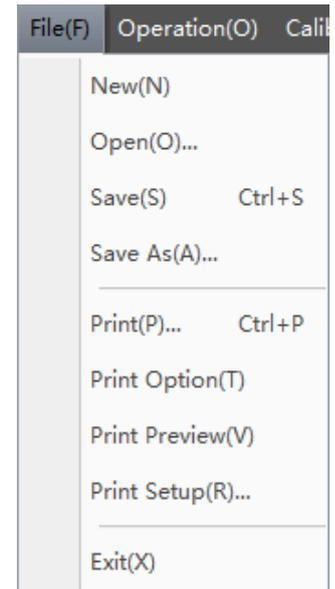

Figure 3.4 File Menu
3.2.1 File (F)
The drop-down menu of “File (F)” is as shown in Figure 3.4.
- New (N): build a new sequence, using the suffix.cry;
- Open (O): open an existing sequence, using the suffix.cry;
- Save (S): save the current sequence;
- Save As (A): save as the current sequence;
- Print (P), Print Option (T), Print Rreview(V), Print setup (R): setup associated with the print;
- Exit (X): Exit the software.